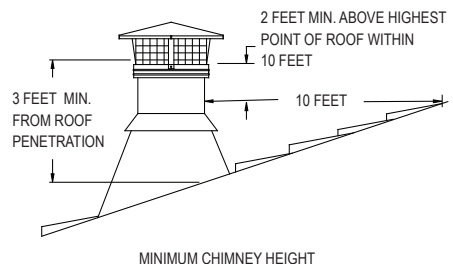
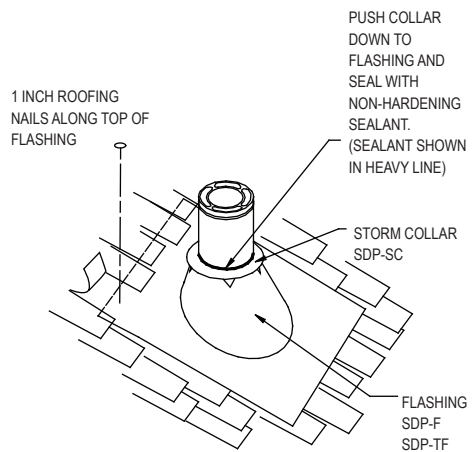
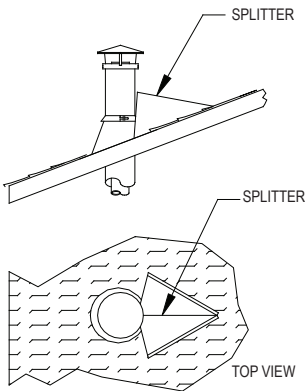

Figure 1
Figure 14
Figure 16
The National Fire Protection Association Standard #211 states: "Chimneys shall extend at least three feet above the highest point where it passes through the roof of a building, and at least two feet higher than any portion of a building within ten feet." (Figure 1).
9. Attach Flashing: In new construction, assemble the Chimney Sections to a point above the roof, then slip the Flashing over the chimney. On an existing roof, center and install the Flashing before extending the chimney above the roof. Allow space to permit sliding the next Chimney Section up through the Flashing. Always insure the chimney remains vertical, and that at least a 2-inch clearance to combustible materials is maintained all around. Install the upper edge of the Flashing under the roofing. Nail to the roof along the upper edge and the upper half on each side with 1-inch roofing nails. Do not nail the lower edge of the Flashing, or the lower half of the sides. (**Figure 14**). Seal all nail heads with a non-hardening waterproof sealant. On flat or tarred and graveled roofs, nail and seal the Flat Roof Flashing to the roof on all sides with roofing compound. Do not put screws through the Flashing into the Chimney Pipe.
chimney above the Flashing, and also along the vertical seam of the chimney pipe, which is exposed to the weather. (Figures 14 and 15). Slide the Storm Collar down over the chimney to the top of the Flashing. Tighten and seal the Storm Collar against the sealant. After installing sufficient Chimney Sections to meet the height requirement, (Figure 1), snap the Chimney Cap onto the top of the chimney. The Chimney Cap can be removed for chimney cleaning as described in the Chimney Maintenance section of the instructions. Use an Extended Roof Bracket if the chimney extends more than 4 feet above the roof. (Figures 18, and 19) in the Extended Roof Bracket section. If you are located in heavy snow country, a "splitter" should be fabricated from heavy gauge sheet metal, and installed. (Figure 16). This will route the snow around the chimney, and protect it. This item is not furnished by DuraVent.